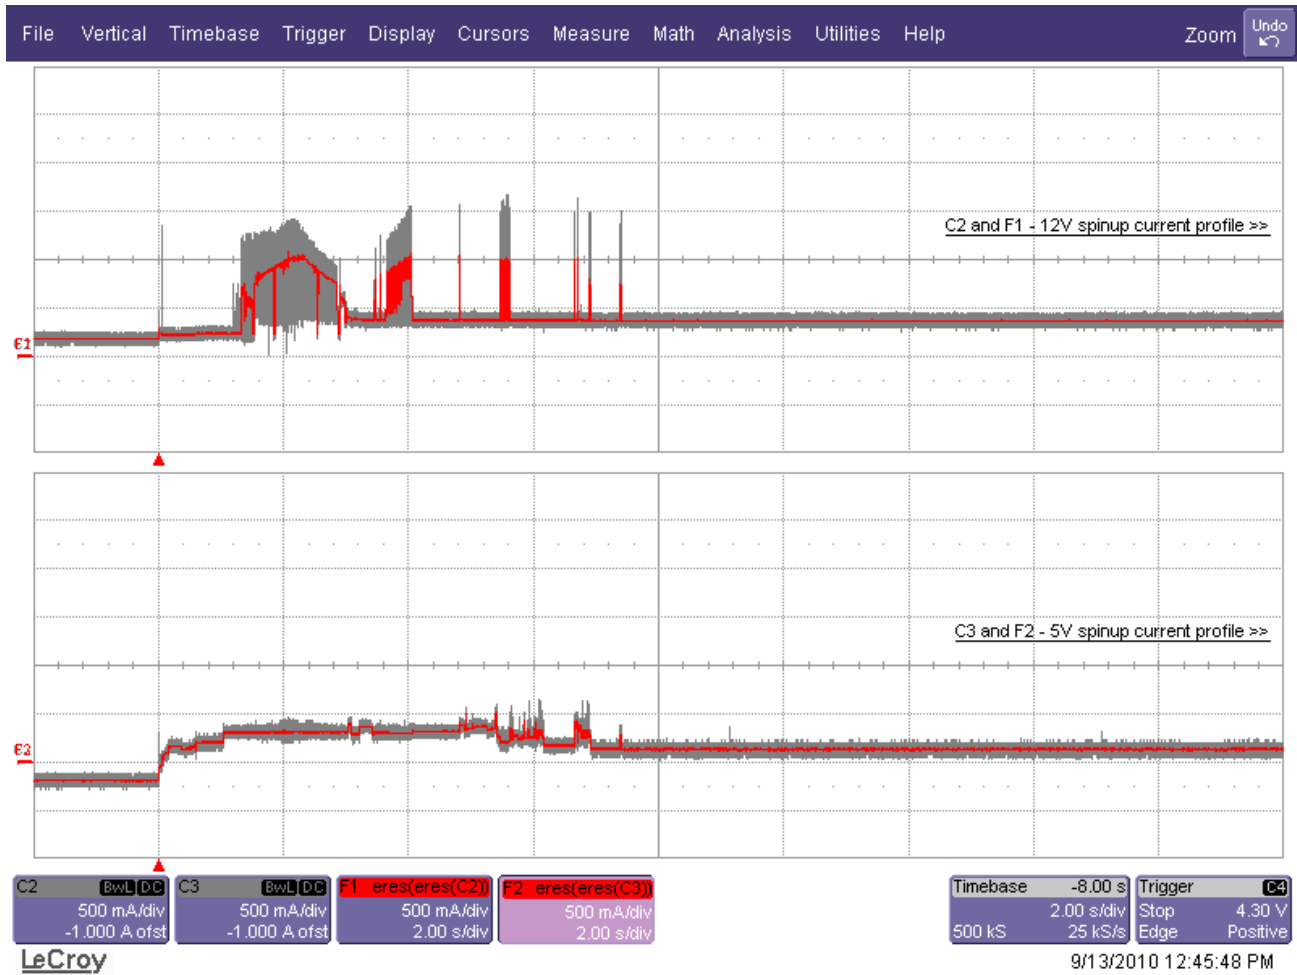
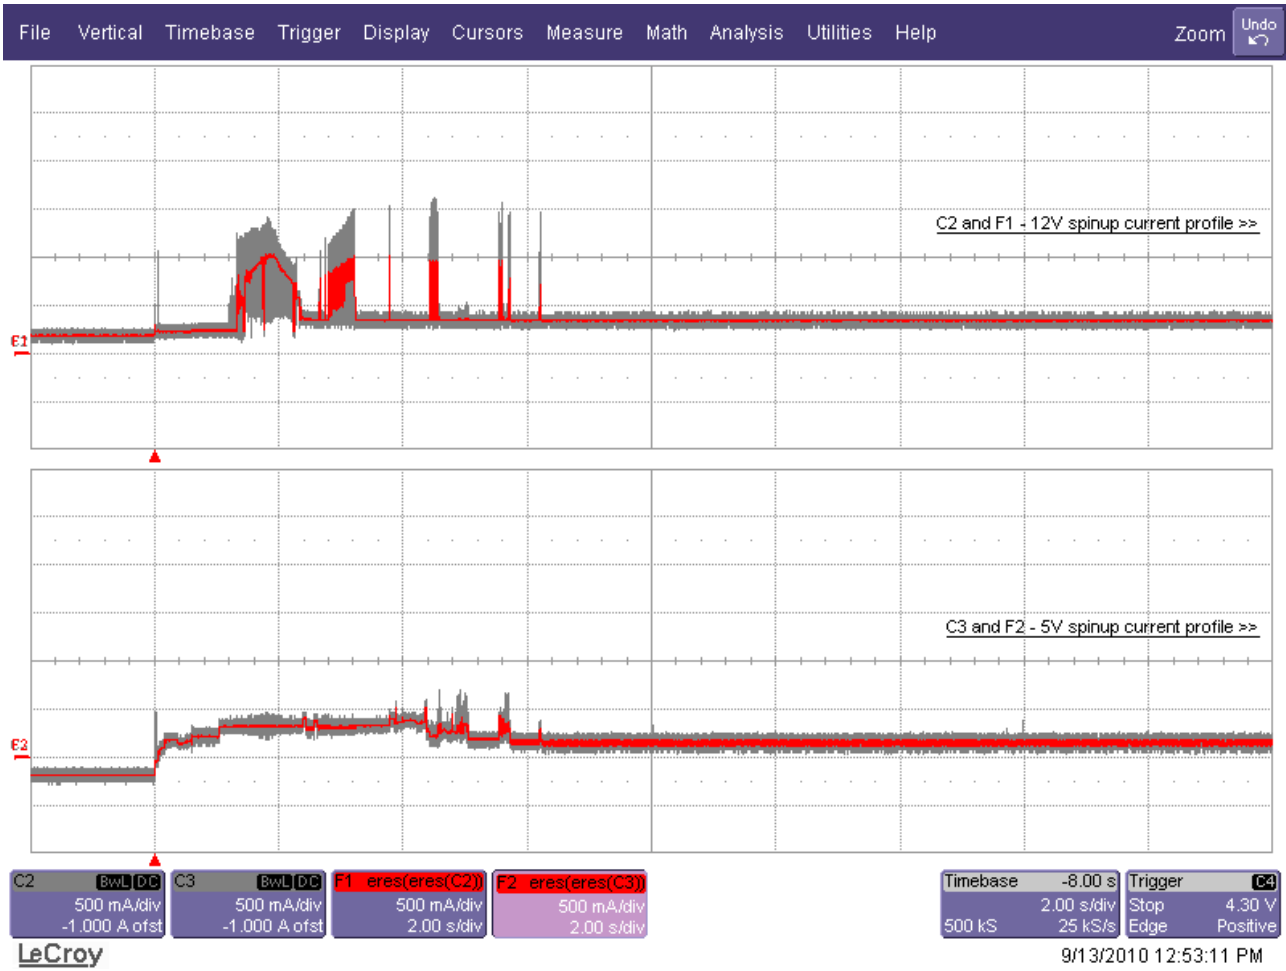

Figure 3. Current profiles for 450GB models
Figure 4. Current profiles for 300GB models
- [4] See +12V current profile in Figure 3 (for 450GB models) and Figure 4 (for 300GB models).